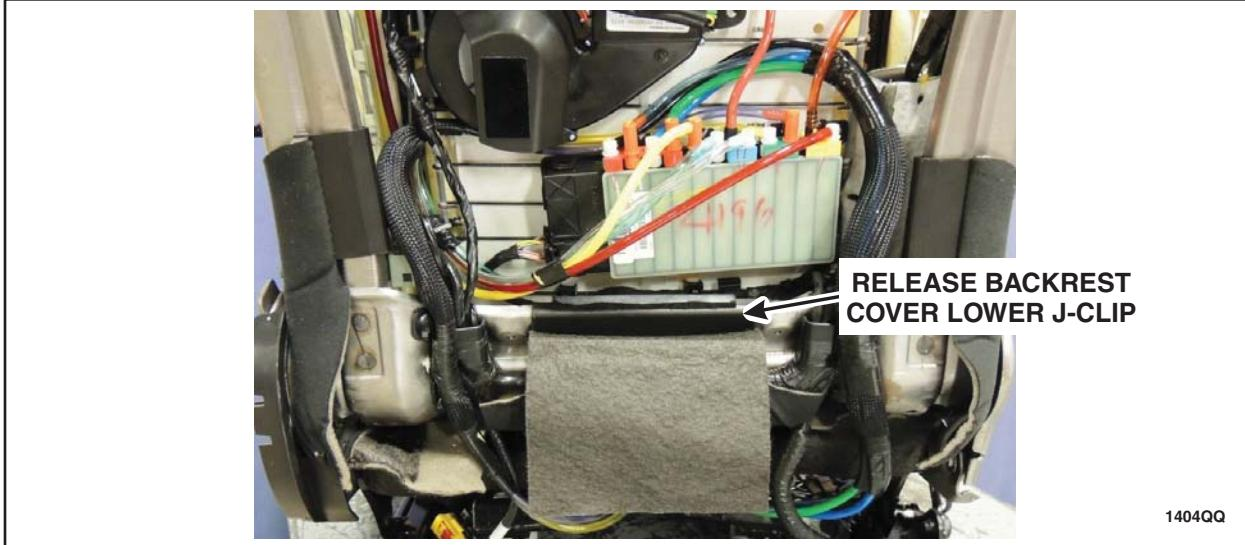

FIGURE 6
9. Release the backrest cover lower J-clip. See Figure 6.